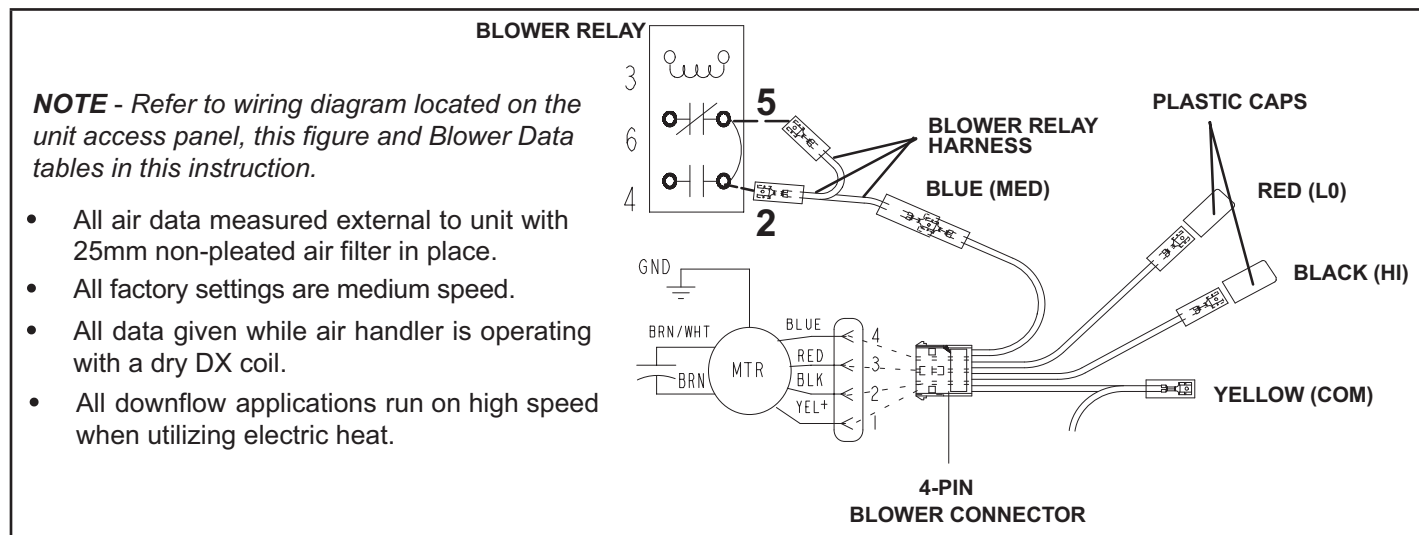

FIGURE 19. Changing Blower Speed
- Typical unit wiring is given in figure 19.